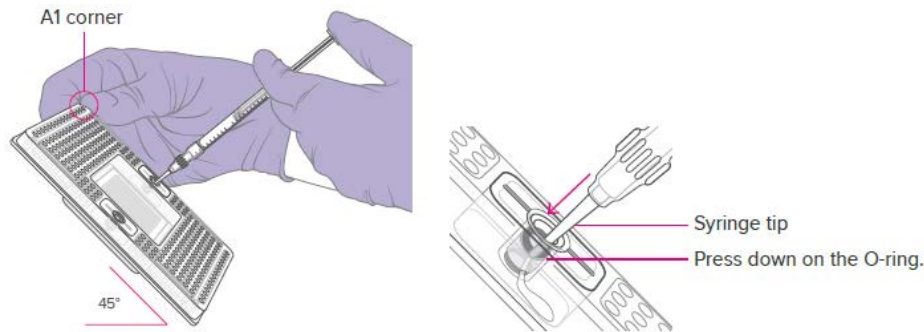

Figure 5. Injecting control line fluid into the accumulators on the 192.24 IFC
- 4 Holding the IFC at a 45° angle, insert the syringe tip into the top accumulator (Figure 5 on page 21).
- 5 Use the syringe tip to press down gently on the black O-ring to move it (Figure 5). Visually confirm that the O-ring has moved.